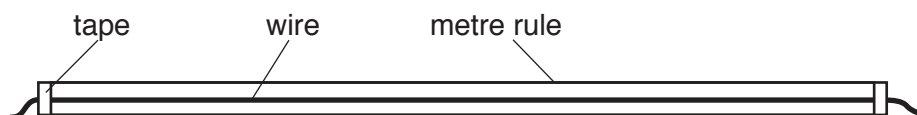

Fig. 1.1
- 2 The wire should be attached to the metre rule as shown in Fig. 1.1. The wire should be firmly taped and as free from kinks as possible.